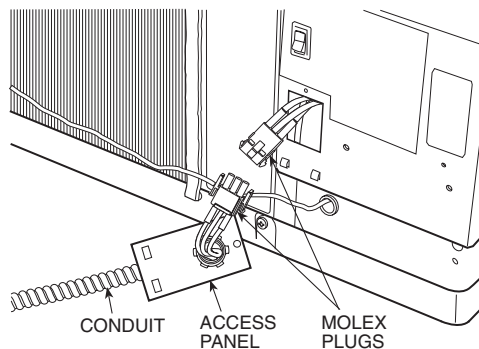

FIGURE 5 — PLUG ASSEMBLY ON HARDWIRE UNITS
4. Pull out the plug assembly and disconnect. See Figure 5.